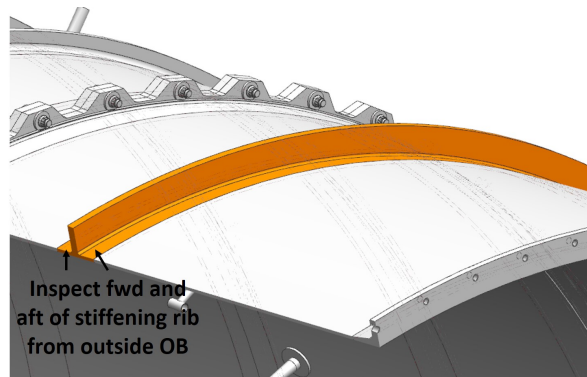

Figure 3: Inspection to the Outer Barrel from the Outside
- At the next opportunity, remove the insulation and inspect the Outer Barrel from the outside using red dye as shown in **Figure 3**. The inspection must be performed around the entire circumference of the Diffuser. If any indications found, please contact your local GE representative for further recommendations.